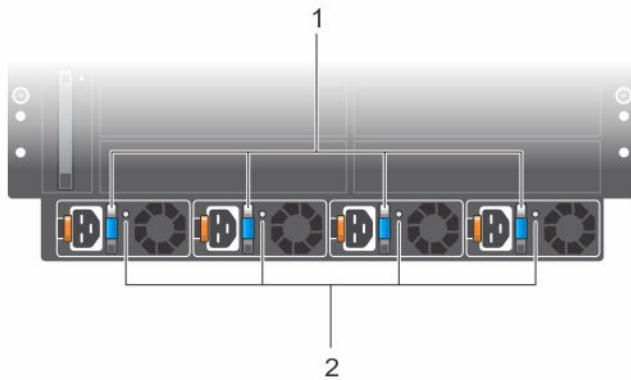

Figure 32. PSU LEDs
4. The power supply LEDs display solid green (see Figure 32) . If a PSU LED is not solid green: